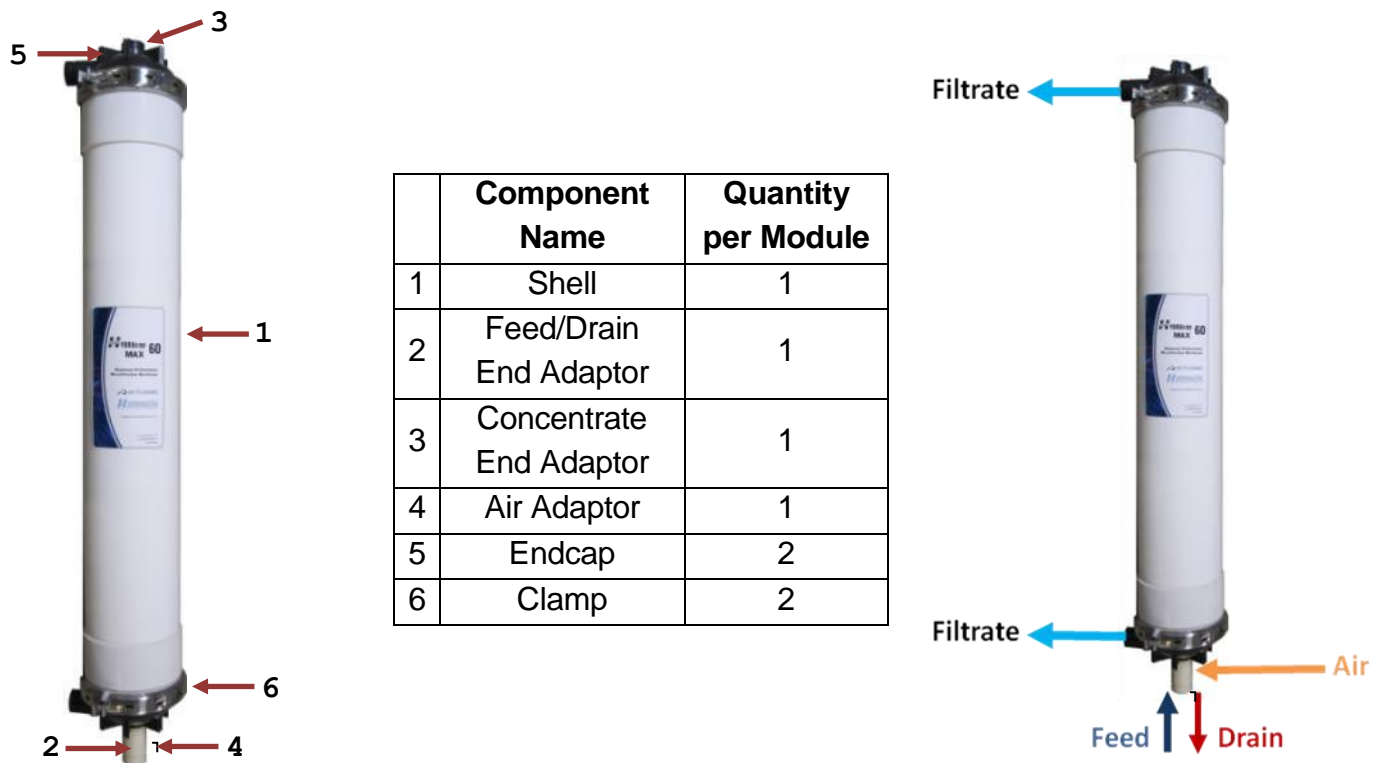

Figure 1: Module Components and Port Configuration
1. The modules can ONLY be installed vertically with the concentrate connection at the top (see figure 1).